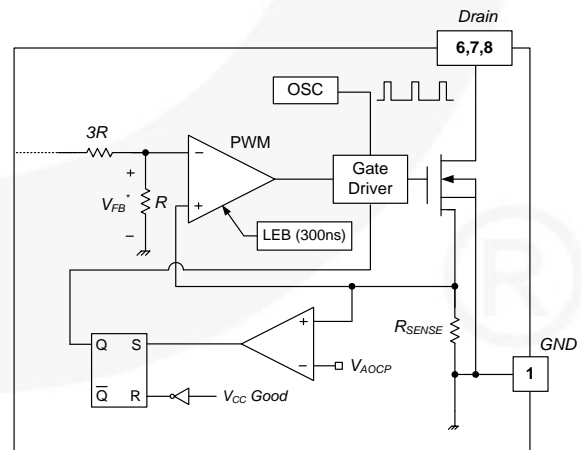

Figure 23. Abnormal Over-Current Protection
4.2. Abnormal Over-Current Protection (AOCP): When the secondary rectifier diodes or the transformer pins are shorted, a steep current with extremely high di/dt can flow through the SenseFET during the minimum turn-on time. Even though the FSL137MRIN has overload protection, it is not enough to protect the FSL137MRIN in that abnormal case; due to the severe current stress imposed on the SenseFET until OLP is triggered. The internal AOCP circuit is shown in Figure 23. When the gate turn-on signal is applied to the power SenseFET, the AOCP block is enabled and monitors the current through the sensing resistor. The voltage across the resistor is compared with a preset AOCP level. If the sensing-resistor voltage is greater than the AOCP level, the set signal is applied to the S-R latch, resulting in the shutdown of the SMPS.